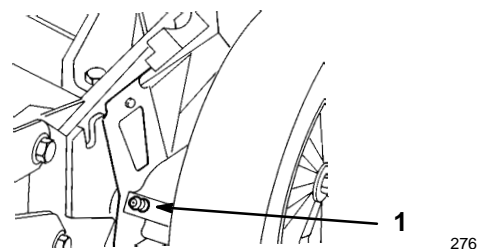

Figure 27
1. Wipe the grease fittings on the rear height-of-cut adjusters (Fig. 27) with a clean rag.